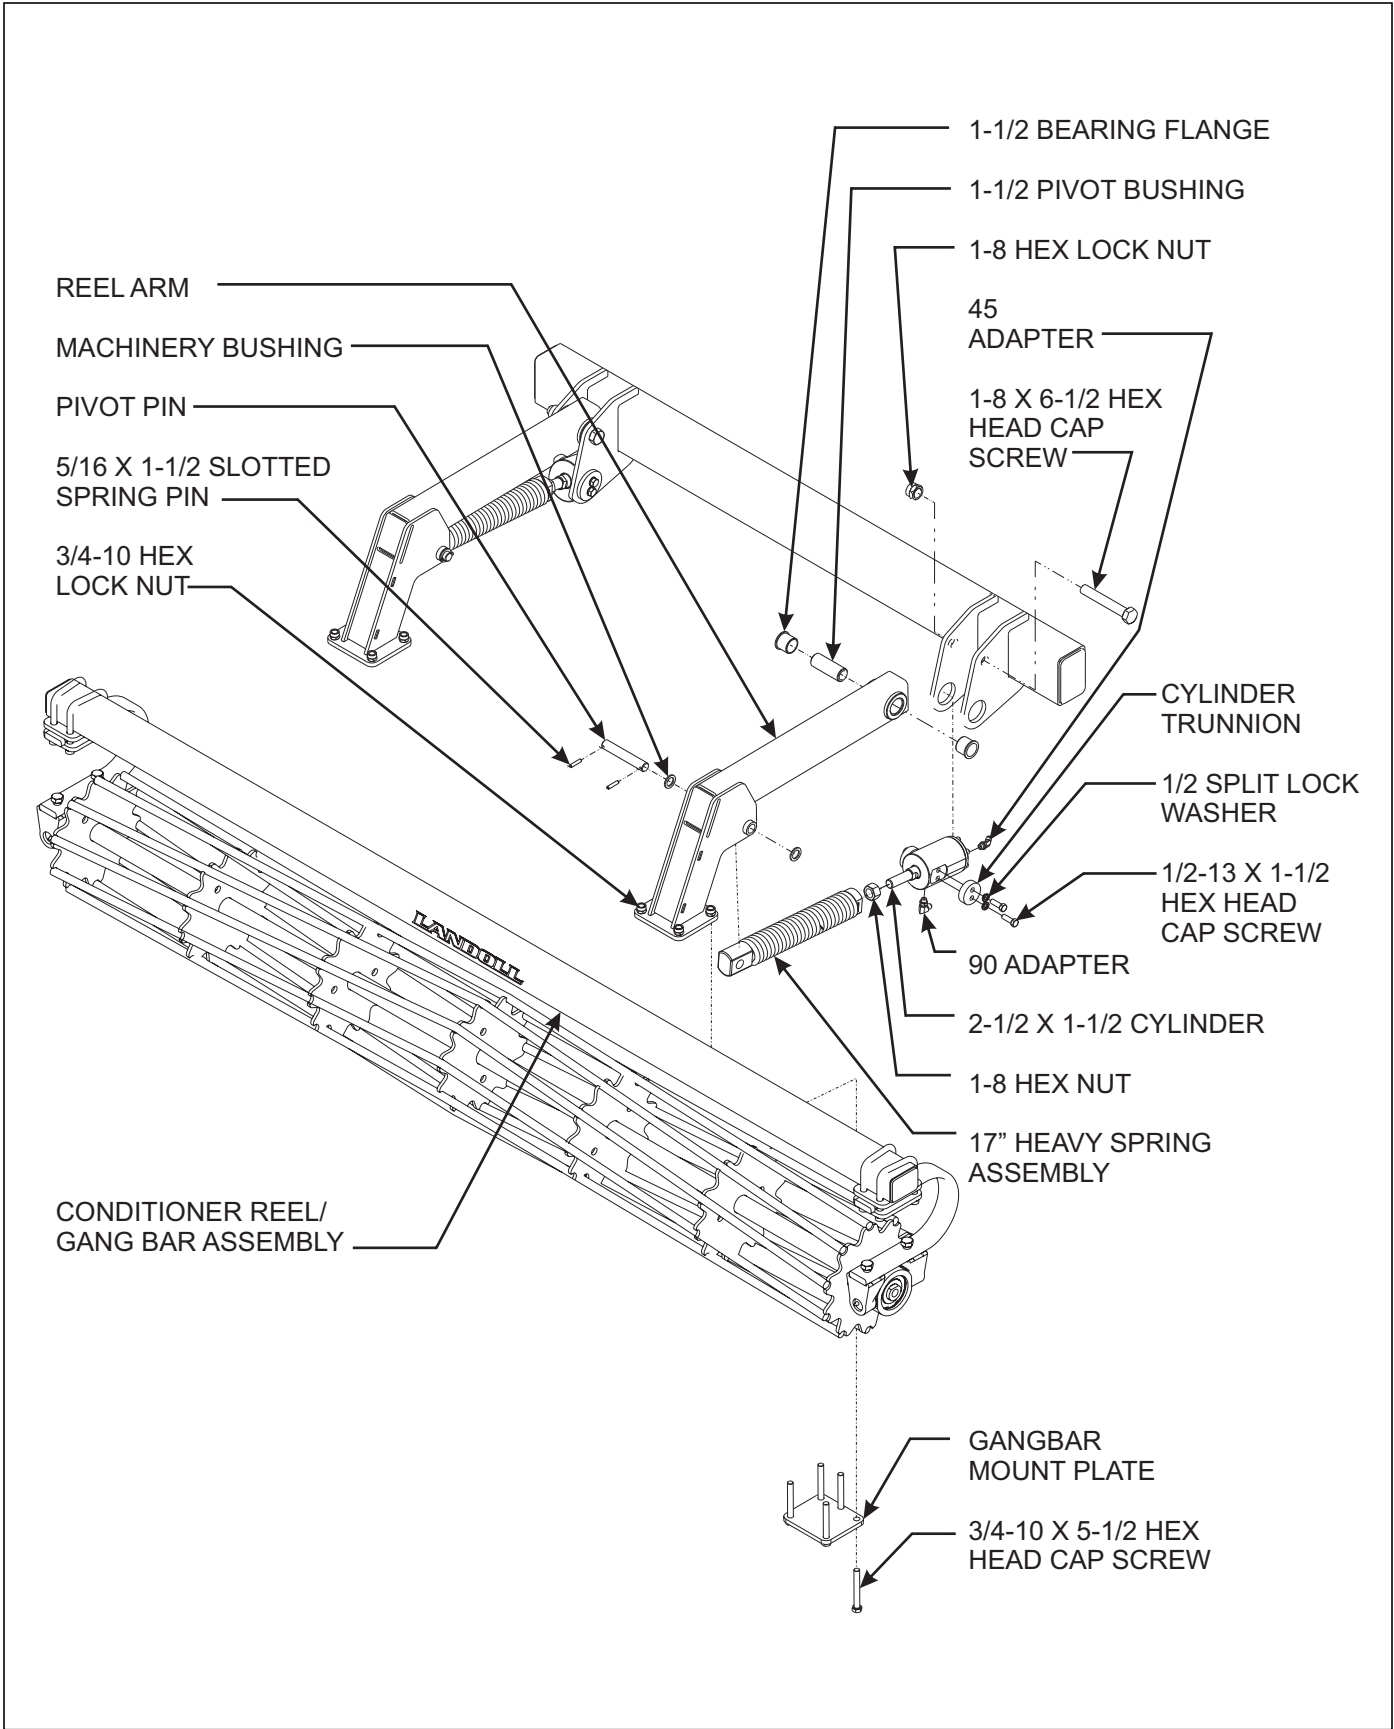
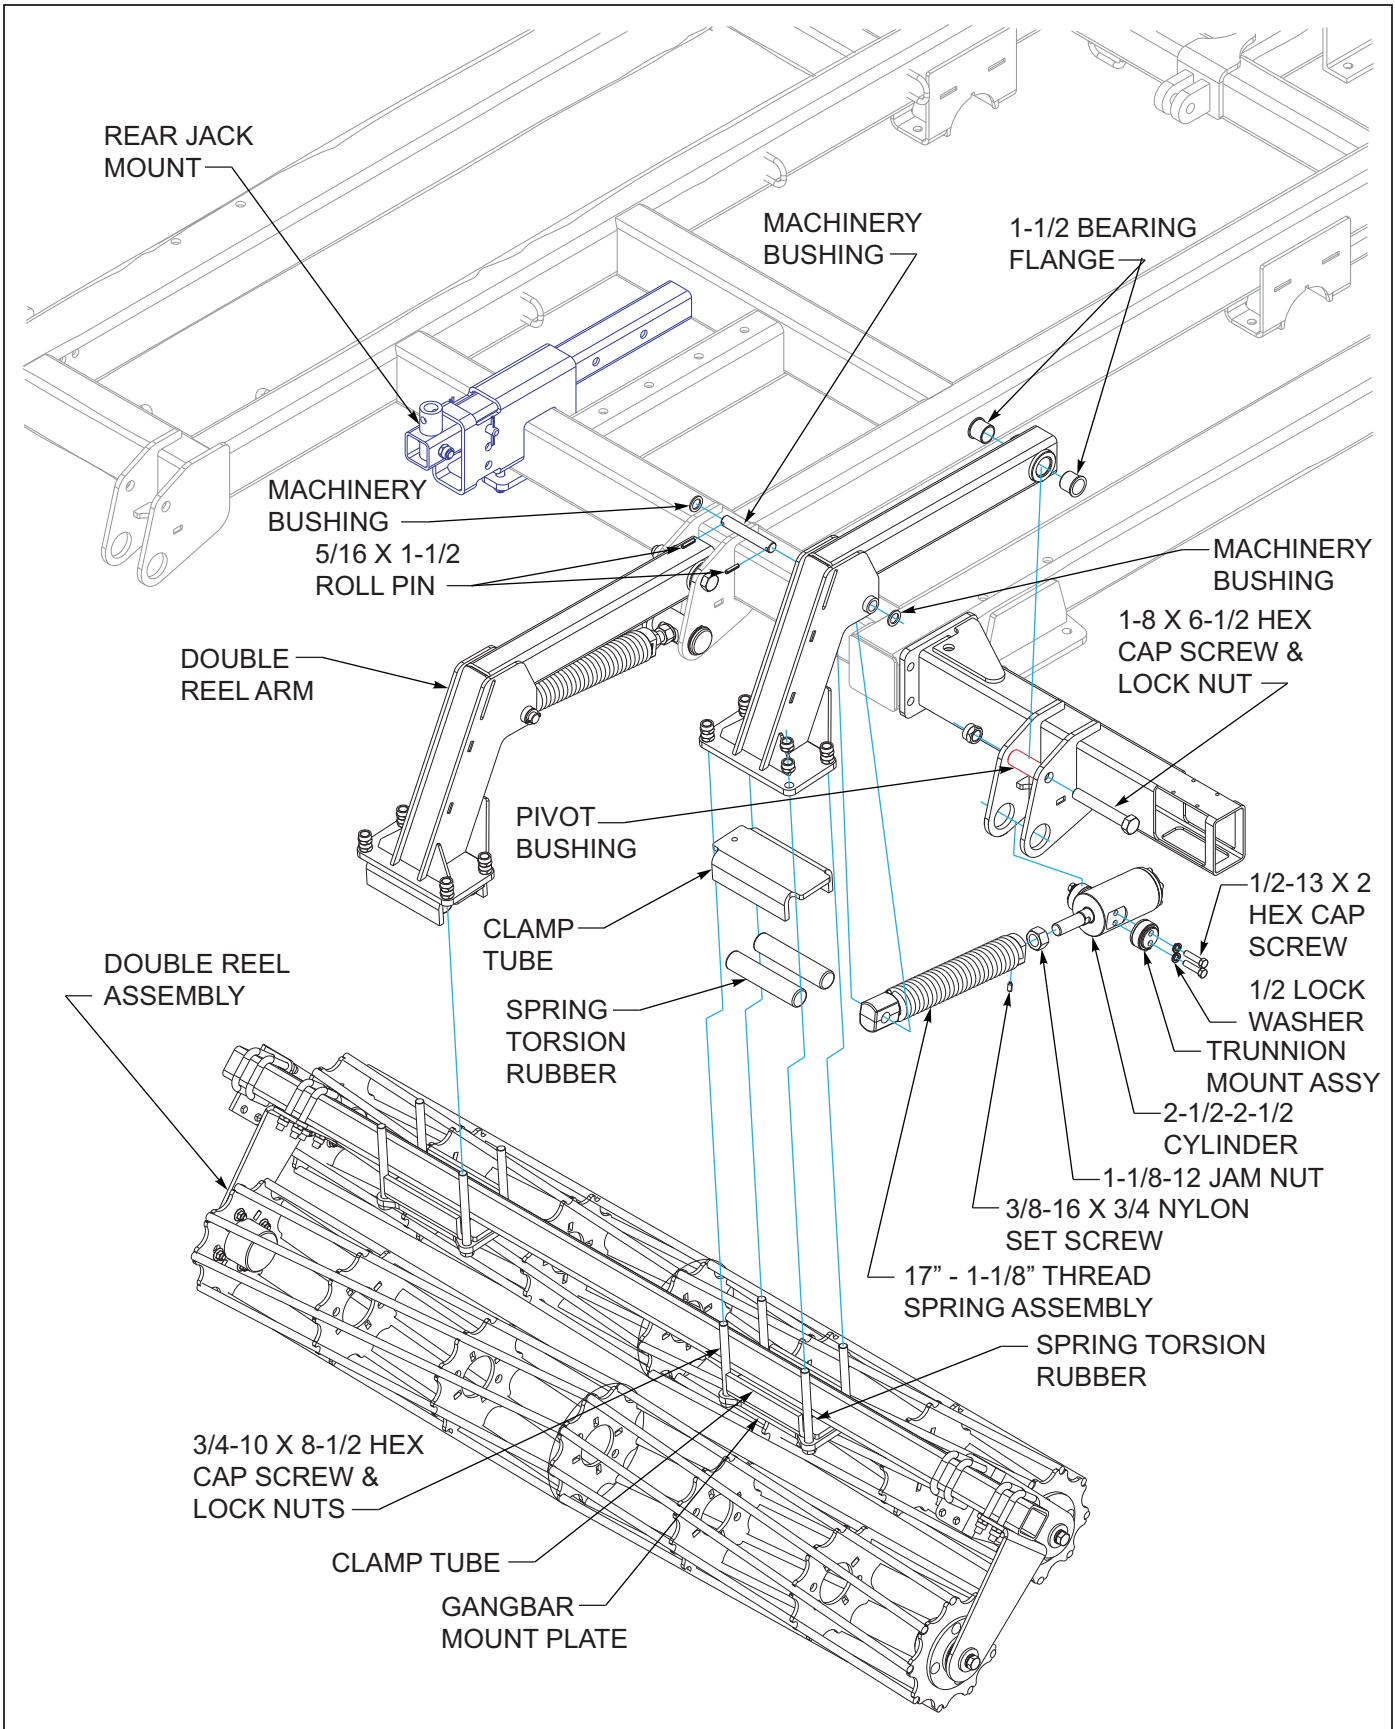

Figure 3-16: Finishing Hydraulic Conditioner Single Reel Installation (Option)
Figure 3-17: Finishing Hydraulic Conditioner Double Reel Installation (Option)
1. Attach reel arm assemblies to rear frame in top hole using 1-8 x 6-1/2 hex head cap screw, pivot bushing, flange bearings, and hex lock nut (**See Figure 3-16.**) for single reel or (**See Figure 3-17.**) for double reel.